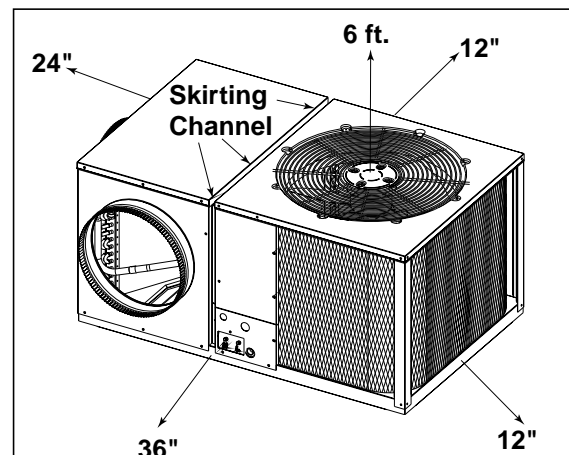

Figure 2. Minimum Unit Clearances
- Create a solid, level position, preferably on a concrete slab or plastic pad (use NORDYNE P/N-903897 or equivalent) and slightly above grade level, located where the skirting channel across top of unit is directly under bottom edge of wall. (See Fig. 2)
- Minimum clearances to obstructions. (See Fig. 2)